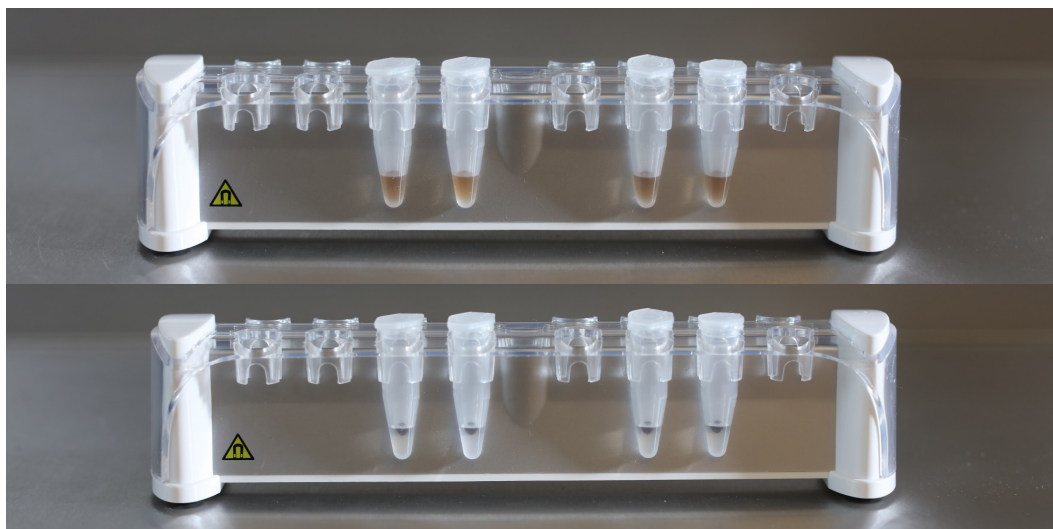

Figure 59. Tubes in DynaMag™-2 Magnetic stand.
7. After the incubation, place the BP Tube on the DynaMag™-2 Magnetic stand and leave it for 2 minutes to separate the beads from the solution (Figure 59).